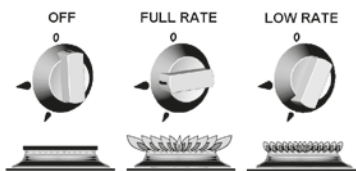

Fig. 1
3. To light: Push in the control knob and turn to full rate – see Fig.1. Hold a lighted match or taper to the burner and push the control knob in and hold. It is necessary to hold the knob depressed after the burner has ignited for approximately 10 - 15 seconds, to allow the thermocouple probe to reach temperature, before releasing the knob. Should the flame go out when the knob is released, the procedure should be repeated holding the knob depressed for slightly longer.